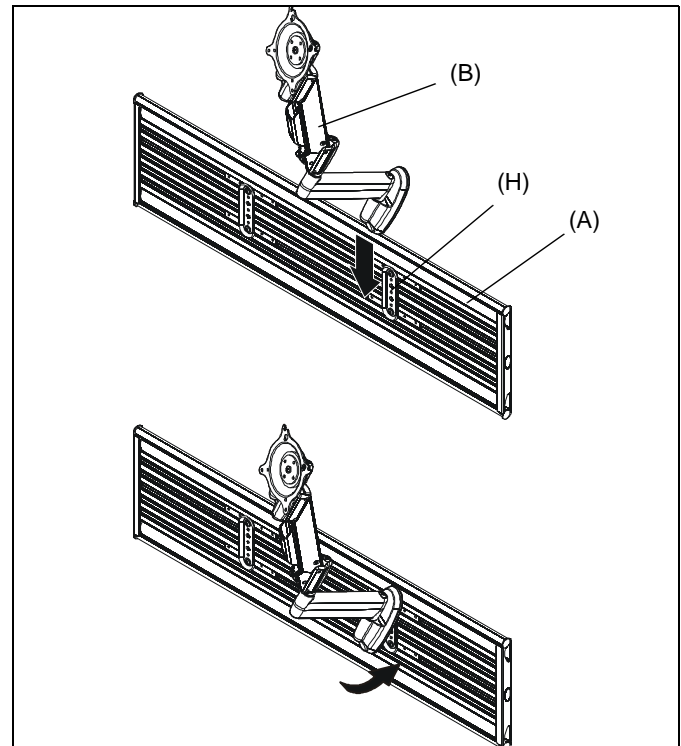

Figure 36
5. Insert top of Centris display mount (B) over lip on top of wall plate (H) on preferred location. (See Figure 36)
6. Swing Centris display mount (B) down flush against wall track accessory (A). (See Figure 36)
- Insert top of Centris display mount (B) over lip on top of wall plate (H) on preferred location. (See Figure 36)
- Swing Centris display mount (B) down flush against wall track accessory (A). (See Figure 36)